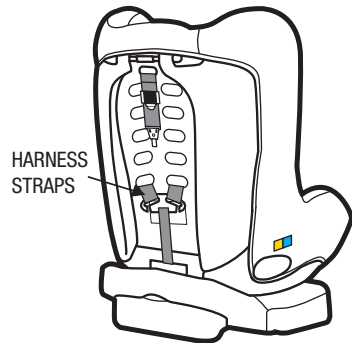

Figure 1
- Step 2:** Remove each shoulder harness through the gates in the spreader plate (see Figure 1 & 4).